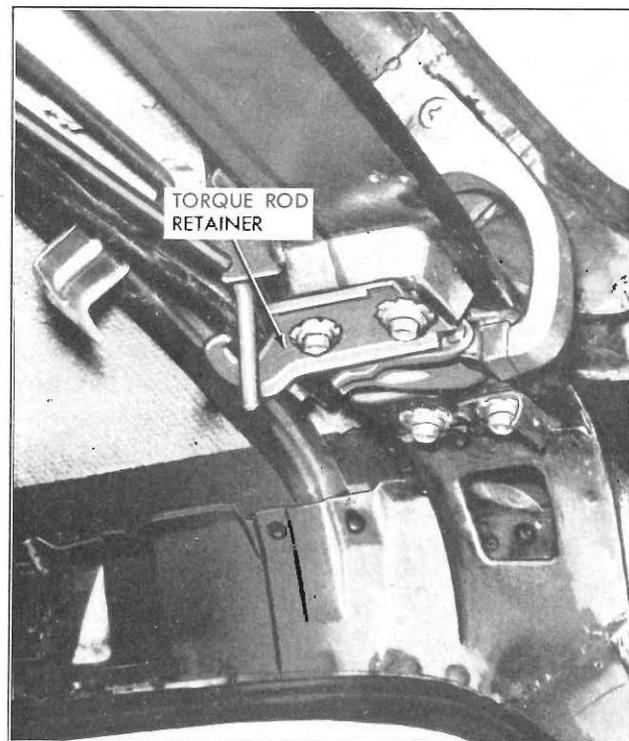

Fig. 2—Back Door Hinge and Torque Rod Retainer
2. With the aid of a helper (to hold back door), remove hinge-to-back door attaching bolts (see Fig. 2) at both hinges and remove back door assembly.
- b. Mark position of torque rod retainers (see Fig. 2) at both right and left hinges to facilitate repositioning of retainers in same fore-aft position.
4. Using a suitable length of pipe over end of torque rod, remove tension of torque rod from retainer. While tension of torque rod is removed, loosen retainer attaching bolts (see Fig. 2), adjust retainer forward or rearward as required. Tighten retainer attaching bolts and engage torque rod in retainer.
2. As an anti-squeak precaution, apply a coat of heavy-bodied sealer to surfaces of hinge which contact body and back door (see Fig. 2).